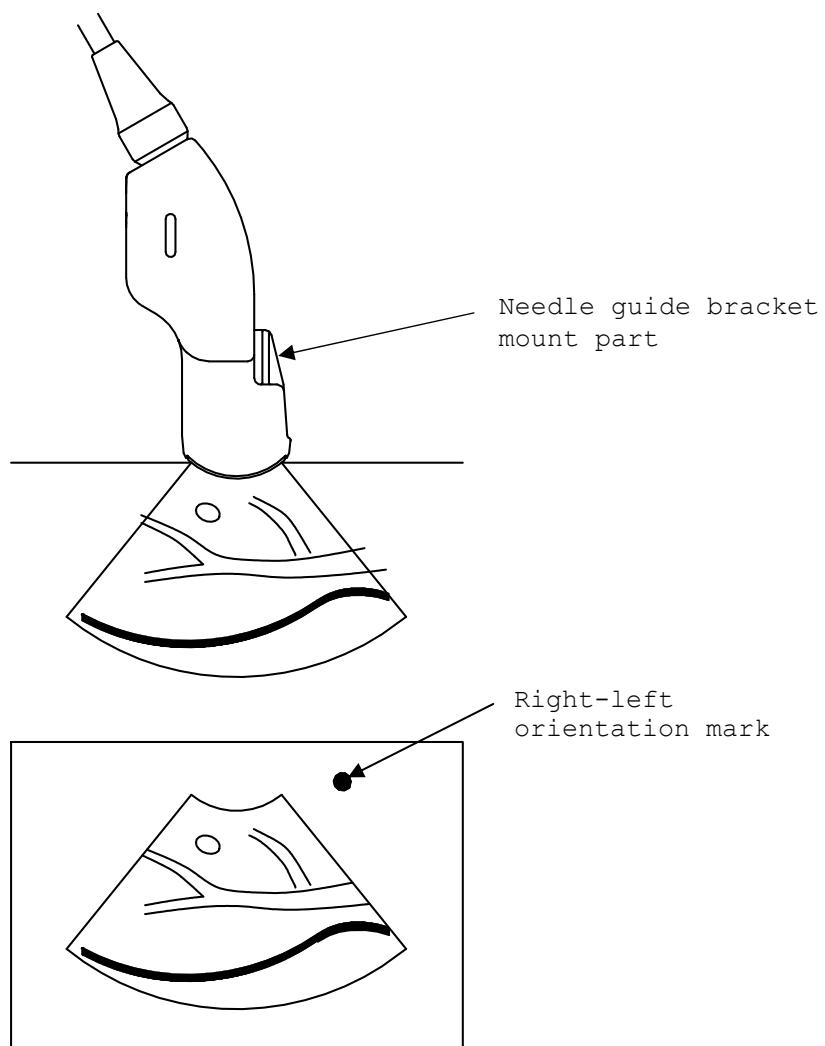

Fig.2 The Relationship between the direction of the probe and the Right-left orientation mark
- 3) Confirm the direction of the probe. The relationship between the direction of the probe and the image is shown in Fig.2. The Right-left orientation mark on the image indicates the direction of the needle guide bracket mount part of the probe.